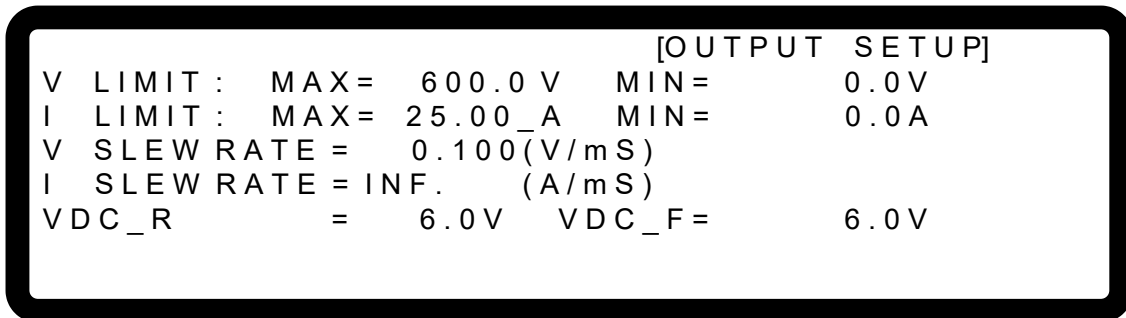

Figure 3-18
1. Use “”, “” keys to move the cursor to the column to be set as Figure 3-18 shows.